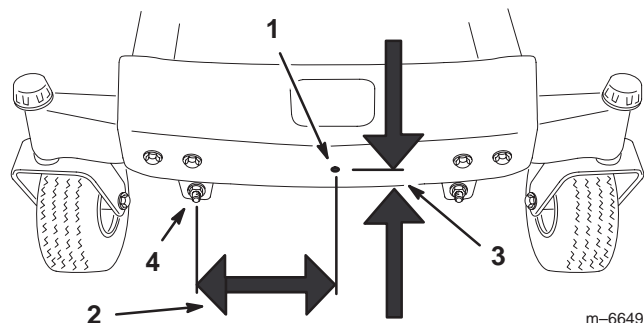

Figure 1
1. In the front of the machine, measure 7-1/2 inches (19 cm) over from the right adjusting nut and up 1-1/4 inches up from the mower frame (Fig. 1).
2. Mark the location and drill a 1/4 inch dia. hole in the front of the machine (Fig. 1).
3. Remove any burrs from the drilled hole on both sides of the frame (Fig. 1).
5. Mark the location and drill a 1/4 inch dia. hole in the side of the machine (Fig. 1).